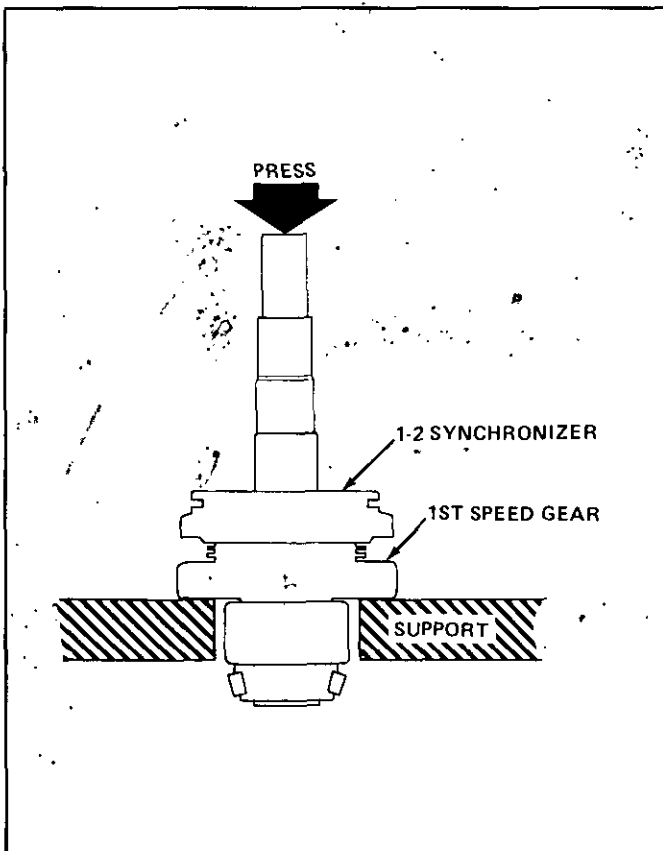

Figure 21 Removing 1-2 Synch. and 1st Gear (Output)
5. Using press plates behind 1st speed gear, press 1st gear and 1-2 synchronizer from the output shaft (Figure 21).